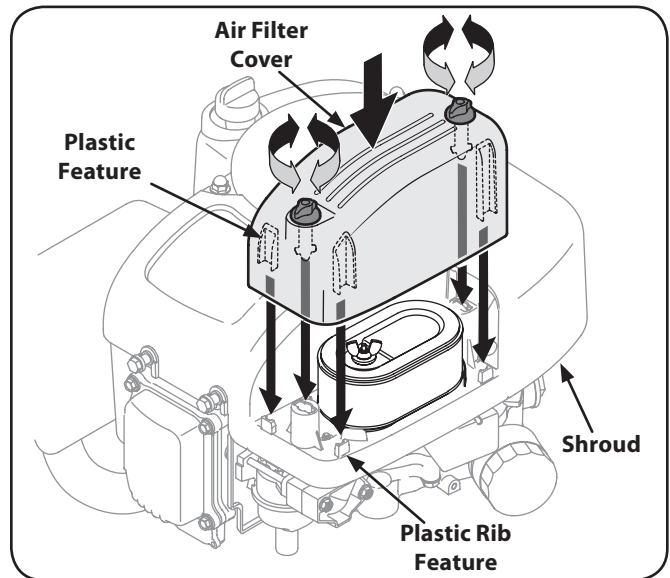

Figure 6-8
5. Attach the air filter cover, making sure to align thumb screws and plastic rib features on the shroud to the plastic features on the air filter cover. See Figure 6-8. Turn thumb screws clockwise until snug. Check for any misalignment.